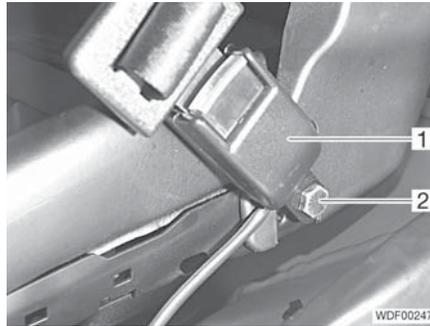

Fig. 330 Seat belt attachment
- Unscrew 1 screw (Fig. 330,2) on both sides.
- Remove the seat belt, including the belt buckle (Fig. 330,1).
- Position the new seat belt so that the belt buckle (Fig. 330,1) is on the left side.
- Screw in 1 screw (Fig. 330,2) on both sides and tighten.